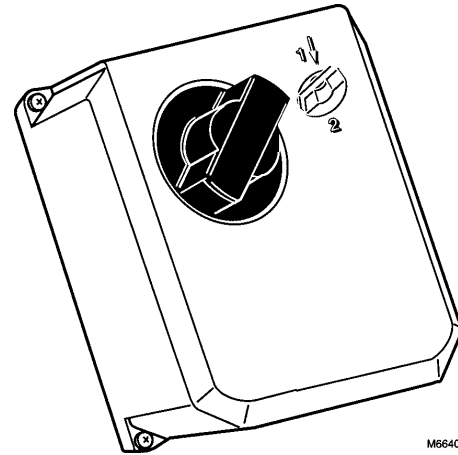

Fig. 7. ML7421A,B manual operator knob.
3. When wiring and checkout are complete, replace the cover, tighten the cover screws, and replace the manual operator knob, see Fig. 7.
The ML7421 is equipped with a manual operator knob (see Fig. 7) to open or close the valve in the event of power failure. Turn off or disconnect the power supply before manually operating the ML7421.